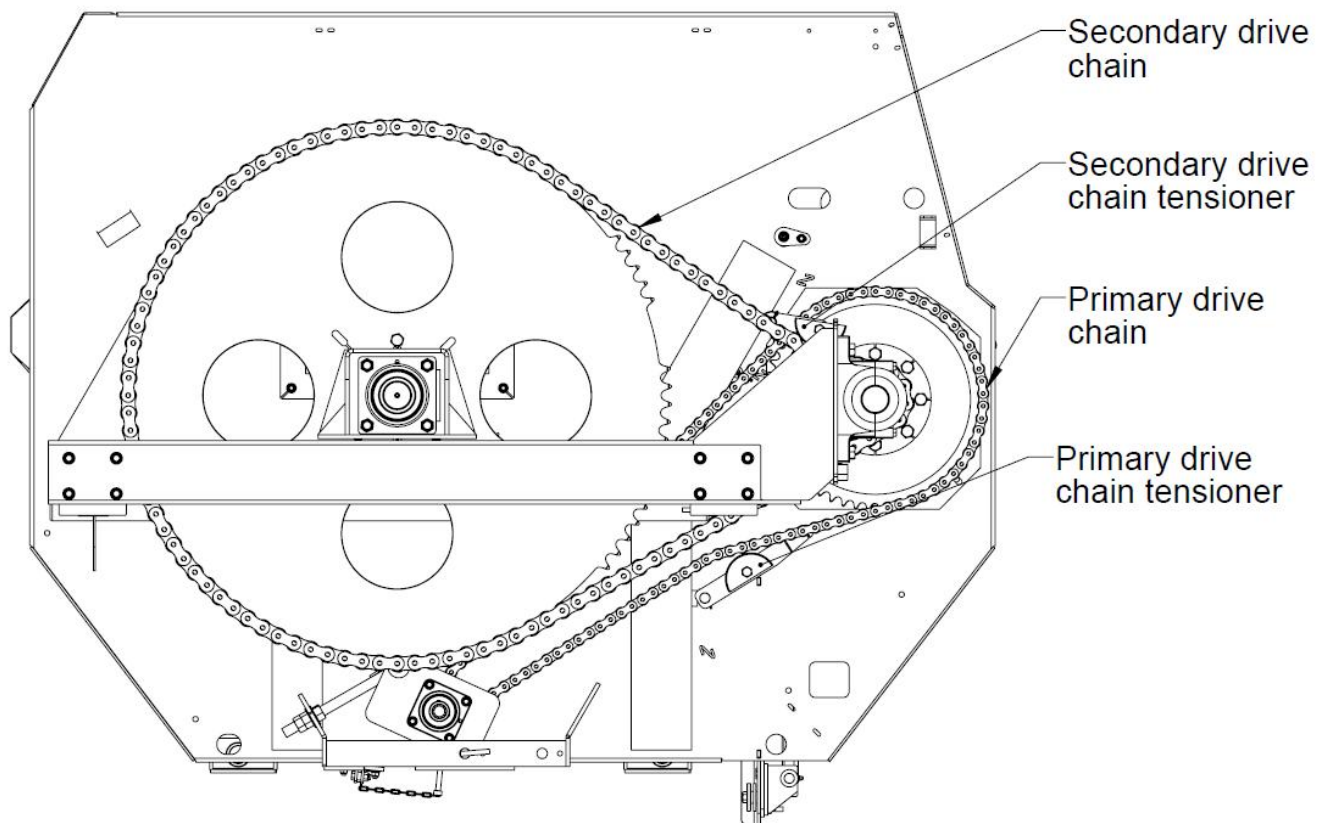

Figure 10: Front panel of Keenan Mech-Fiber Mixer Wagon
1. Each week check the condition of the chain tension arms and adjust as required. There are two chains used on the Keenan Mech-Fiber 320 model. The primary drive chain (ASA100) drives the auger shaft and the secondary chain (ASA140HS) drives the rotor (see figure 10). Both chains are tensioned by spring assemblies on the slack side of the chain.